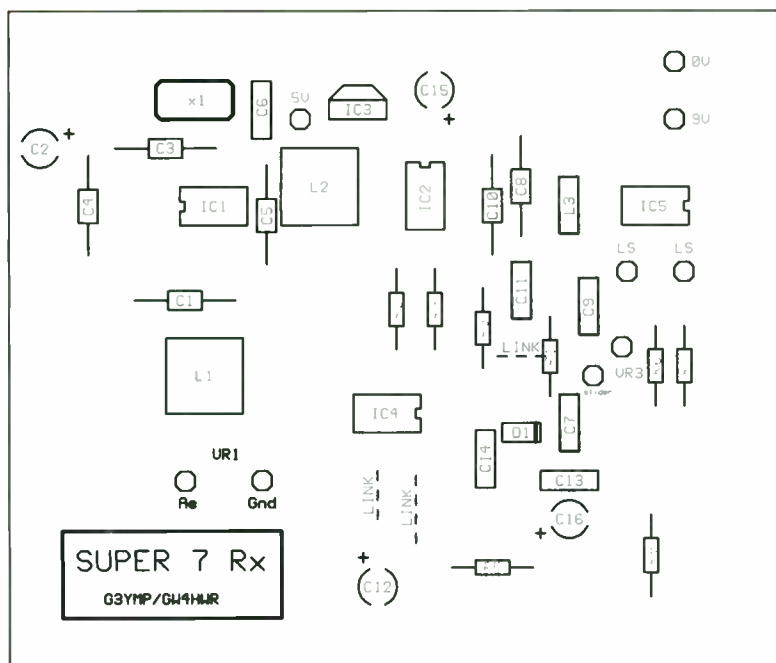

Fig 7.5. The component layout
Fig 7.5 shows the layout of the components and must be consulted whenever components are inserted.
1. Fit the three wire links in the positions indicated by a dotted line in Fig 7.5. Off-cuts from resistors are most
2. Insert nine panel pins, from the track side of the PCB, in the positions indicated in Fig 7.5 by an 'O'.
4. Fit the three IC holders, ensuring that the notch at one end coincides with that in the layout diagram in Fig 7.5. Do not use too much solder as there is a possibility of a solder bridge being created between adjacent pads on the PCB.
10. Fit IC3 with about 4mm clearance and double check the orientation with that shown in Fig 7.5.
and the polarity of the electrolytic capacitors. Ensure that the diode D1 is the correct way round and that the notches in the IC holders correspond to those in the layout diagram in Fig 7.5.
12. Next connect a red insulated lead to the pin marked '9V' and a black one to the 0V pin. Temporarily connect a 9V supply to these leads and measure the voltages between pin 3 (ground or 0V) and pin 8 on both IC1 and IC2 sockets. There should be 5V in each case. Repeat the test using pin 4 (ground or 0V) and pin 8 of the IC4 socket. There should be 9V. Carefully insert the three ICs in the correct socket with the correct orientation, again referring to Fig 7.5. The pins of the ICs may be splayed outwards and to make them fit the sockets they must be aligned. This is best done by holding the IC with the pins flat against a hard surface (table top) and bending the body gently towards the pins. Repeat with the other side. Very little force is needed – double check the alignment of the pins. The correct orientation is when the dot on the top of the IC is at the same end as the cut-out in the holder. When fitted, check that all pins are in their sockets – the magnifying glass is again useful for this operation.